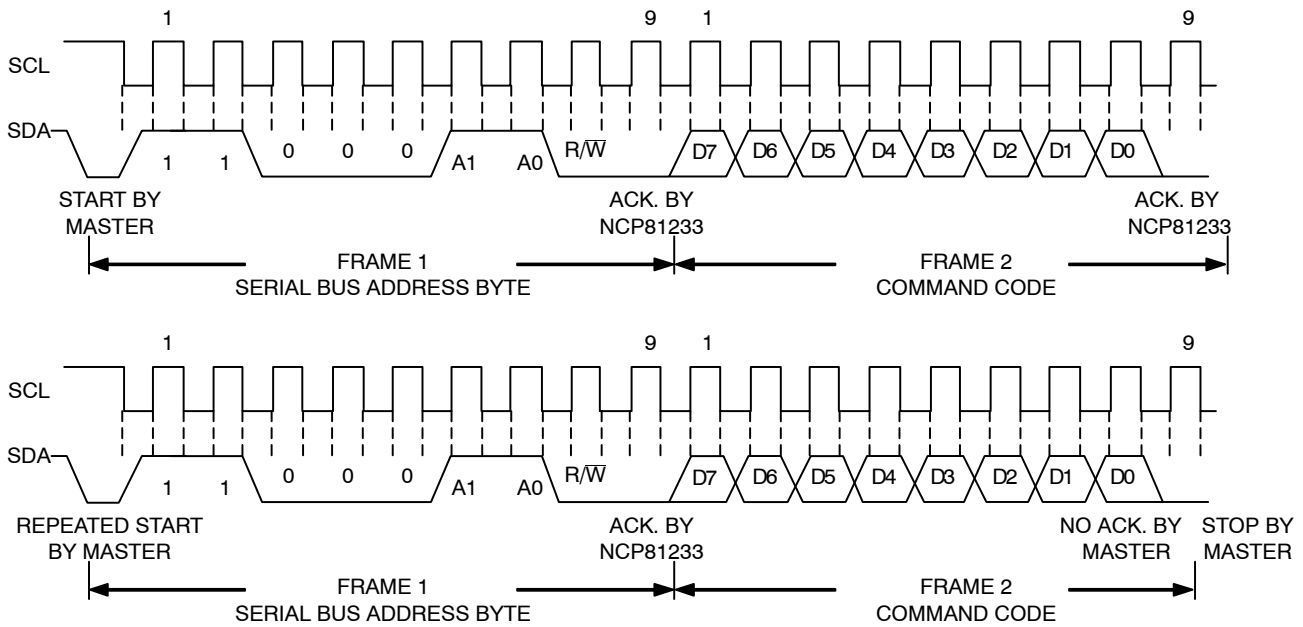

Figure 21. Read Byte
- The read byte operation is shown in Figure 21. First the command code needs to be written to the NCP81233 so that the required data is sent back. This is done by performing a write to the NCP81233 as before, but only the data byte containing the register address is sent,